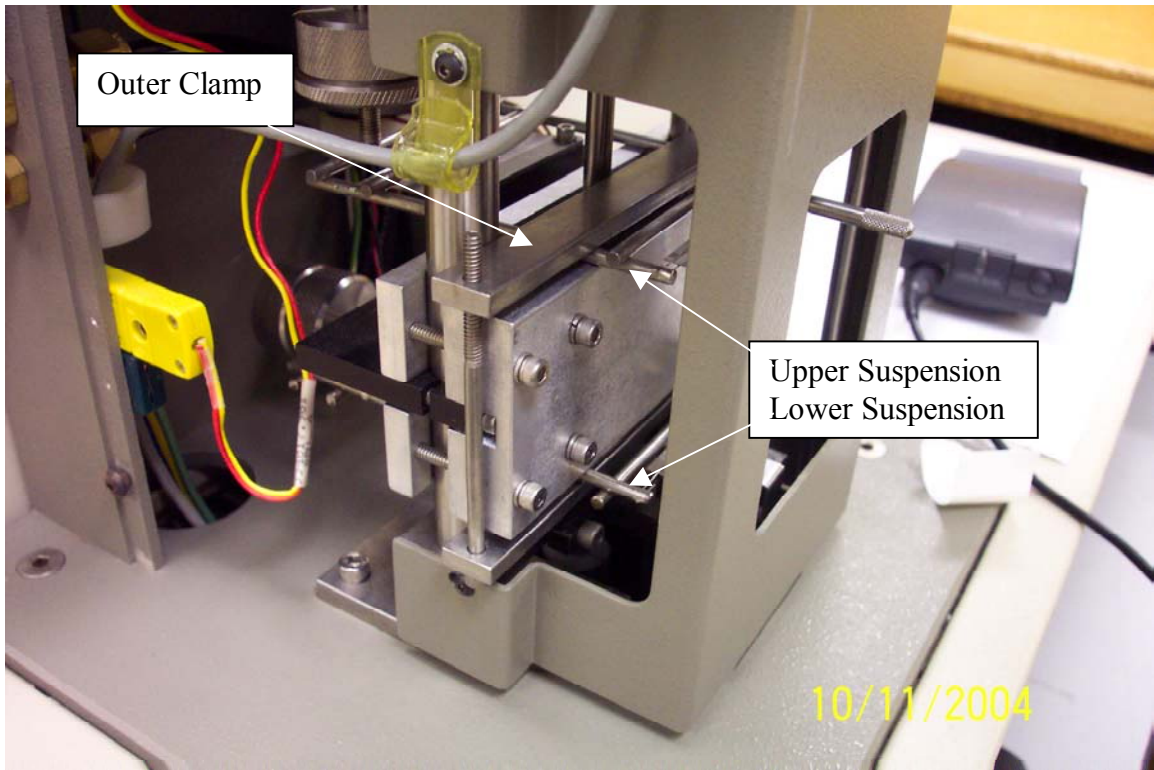

Figure 9
8. Remove one of the bolts from the outer clamp and install the outer clamp. The clamp should go above and below the upper and lower suspensions (Figure 9).